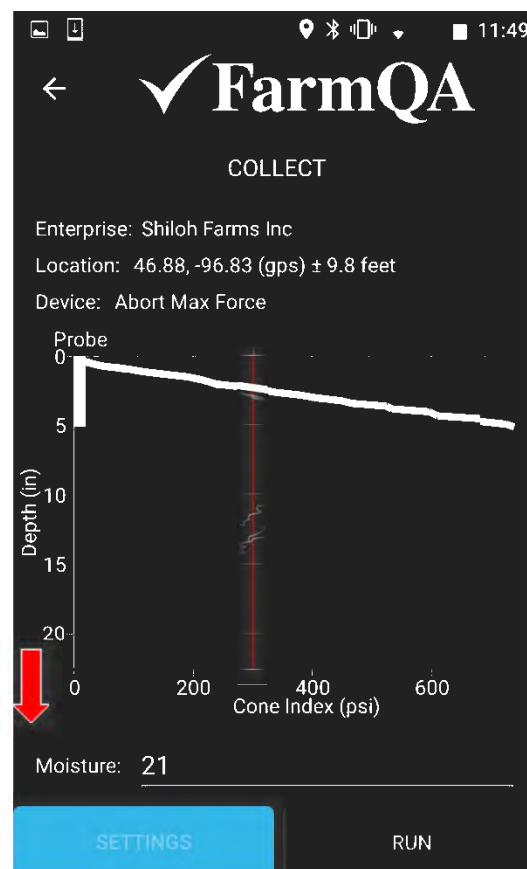

FIGURE 25
38. After pushing OK the screen should look similar to **Figure 25**. The Device status reads "Abort Max Force", the red down arrow and white probe depth bar show that the probe is in the ground, and the RUN button is gray.